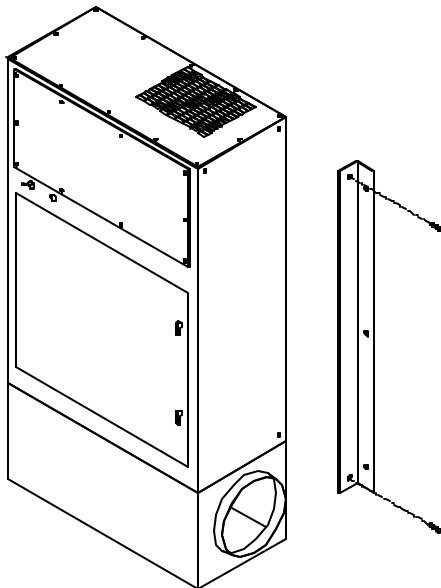

FIG. 1
2. Use bolts removed in Step 1 to secure wall mount brackets to unit as shown in **FIG. 1**.